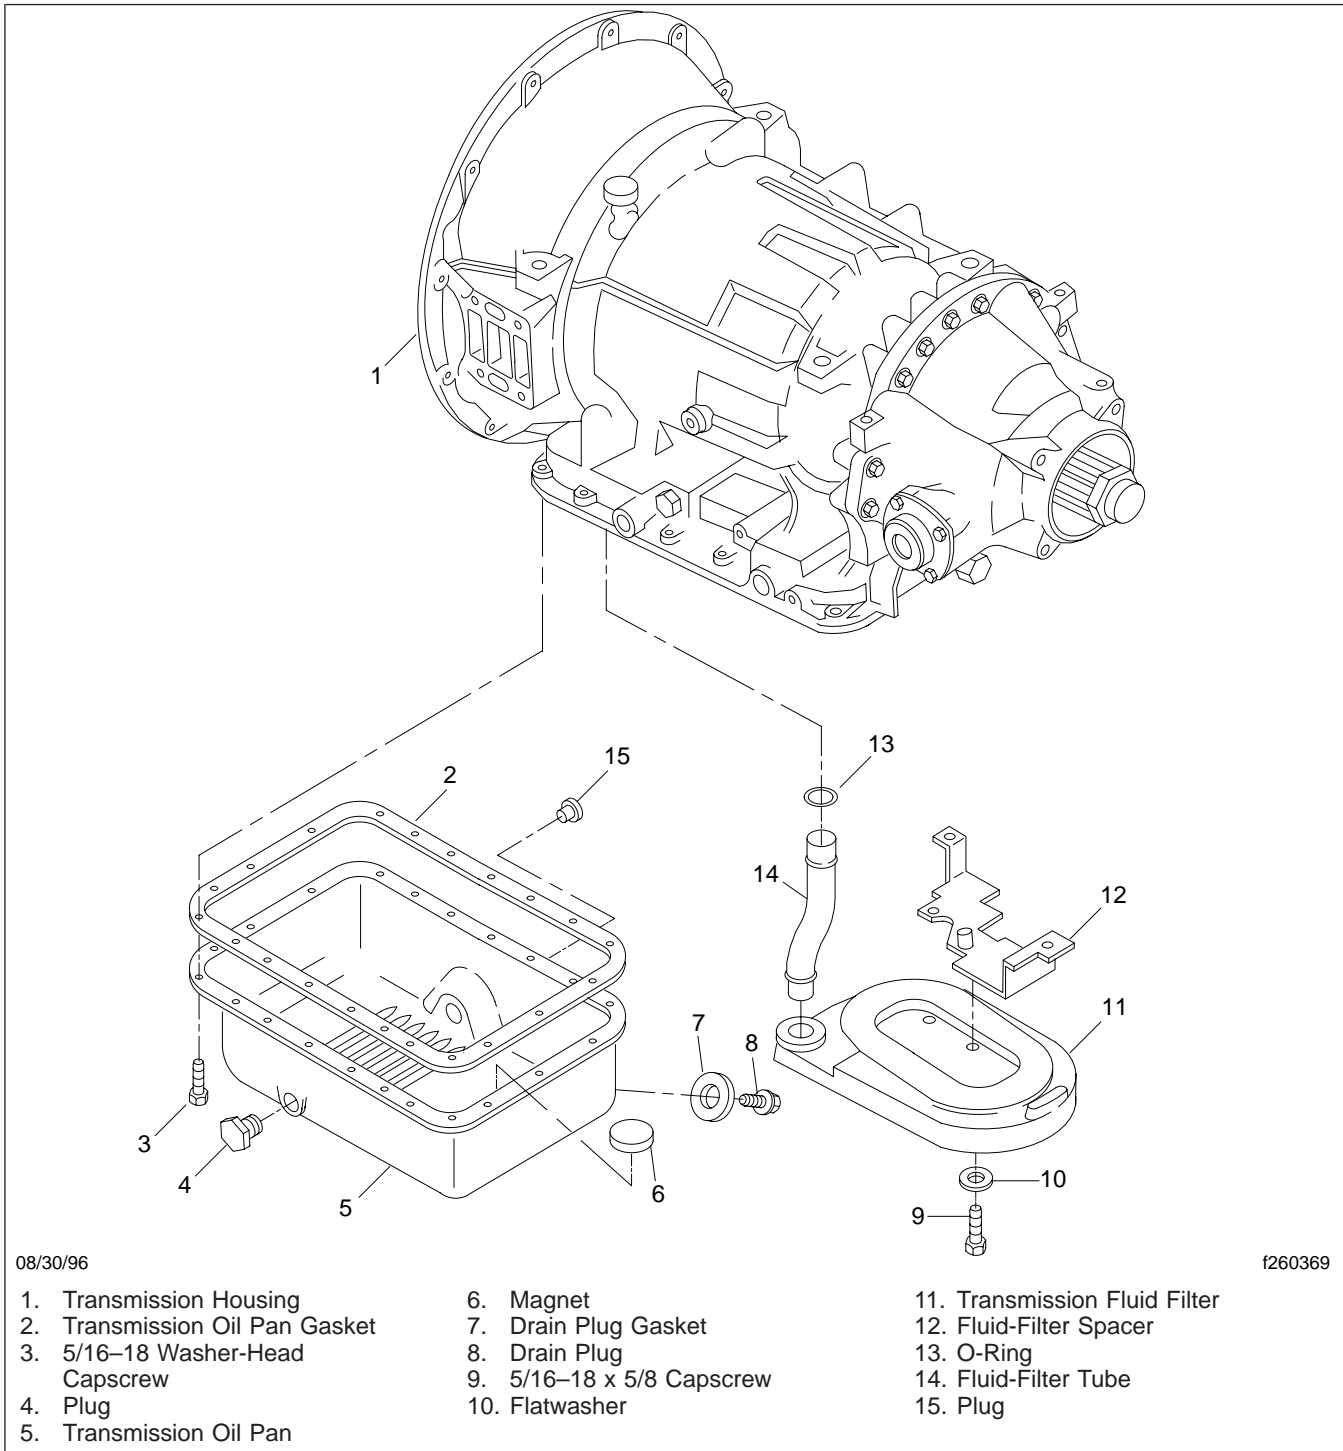

Fig. 6, Allison MT Series Transmission, Filter Removal
7. Remove the washer-head capscrew that secures the filter to the transmission, then remove the filter and the filter intake pipe from the transmission. See Fig. 6.